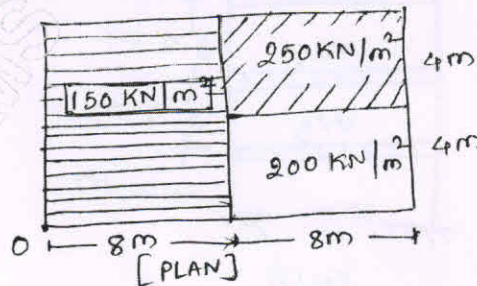

Fig.Q4(c)
c. A building having a non uniform distribution of mass in shown in Fig.Q4(c). [Plan of a building] Locate its centre of mass.